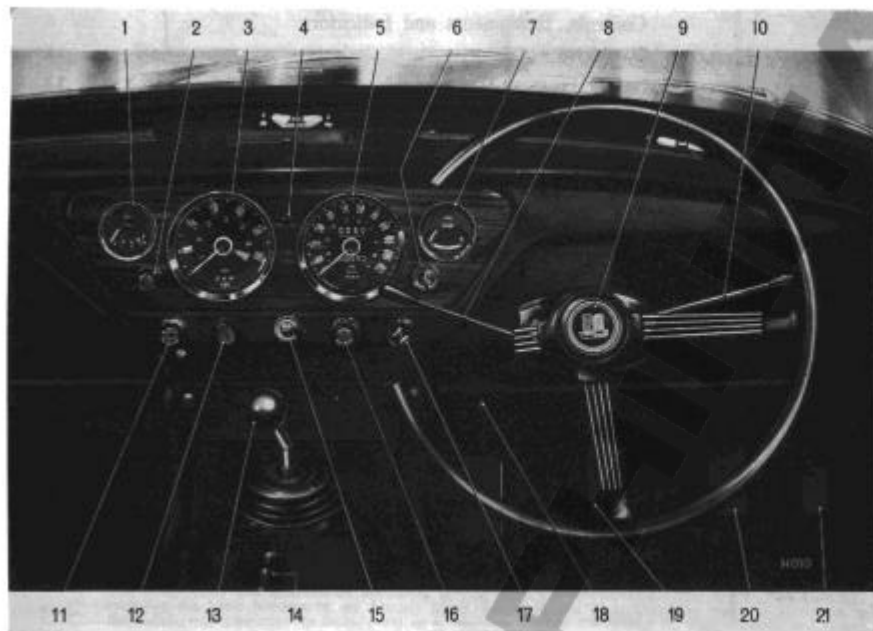

Fig. 2
The controls, instruments and indicators shown on Figs. 2 to 8 and described in the following pages are positioned within easy reach of the driver to afford maximum ease of operation and minimum distraction. The bracketed figures in the text cross-refer with the key on pages 6 and 7
The figures within the aperture above the centre of the dial may be used to record the distance of each journey, providing that the figures are initially set at zero. This is achieved by turning clockwise the knob (18), Figs. 2 and 3, which extends downwards from behind the instrument.